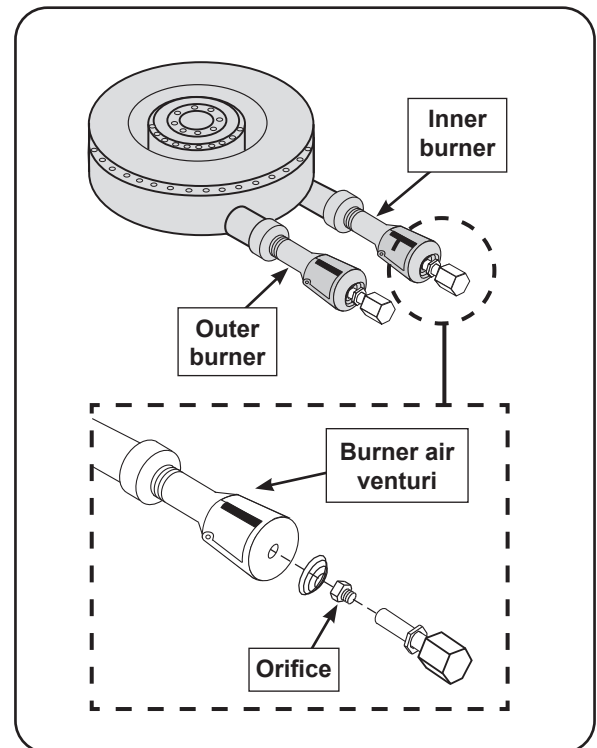

Fig. 41-1 Burner air shutter / orifice orientation
2. Locate the orifices. The orifice size is stamped on each orifice face (see Fig. 41-1).